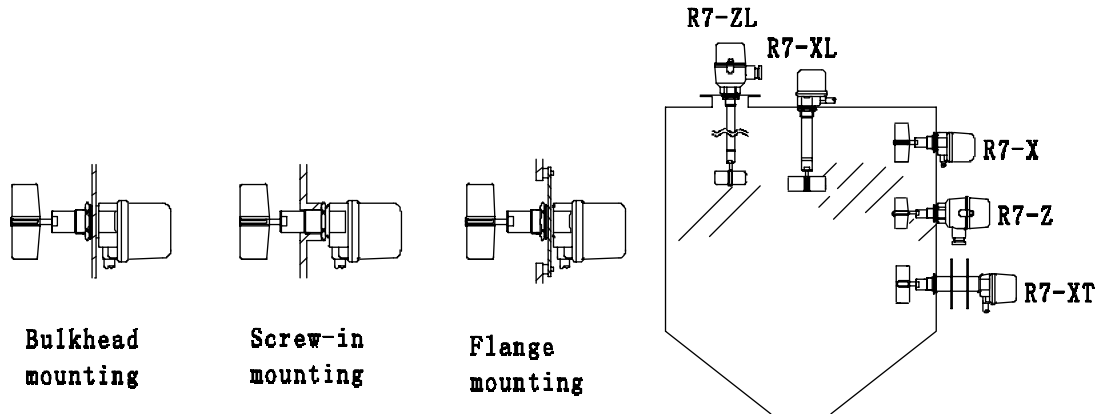

Fig. 3.
First, drill a 28(1.1 inch) hole in the bin wall. Then, insert the shaft and tighten the (1)gasket , (2)washer and (3)nut in these order. After clamping the unit, install the paddle with pin. See Fig.3.
The R7 is provided with a G $\frac{3}{4}$ threaded mounting. It is screwed laterally into the container wall at the level where you wish to detect material. See Fig. 3.
The R7 is provided with a JIS5K65A flange for 80(3.2 inch) paddle. It is installed on a compatible mating flange on the container wall at the level where you wish to detect material. See Fig. 3.